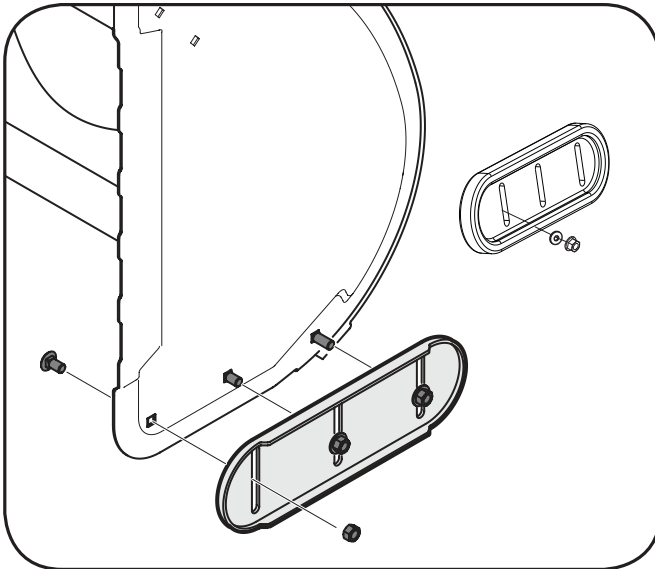

Figure 6-1
2. Reassemble new skid shoes with previously removed hardware. Refer to Figure 6-1.